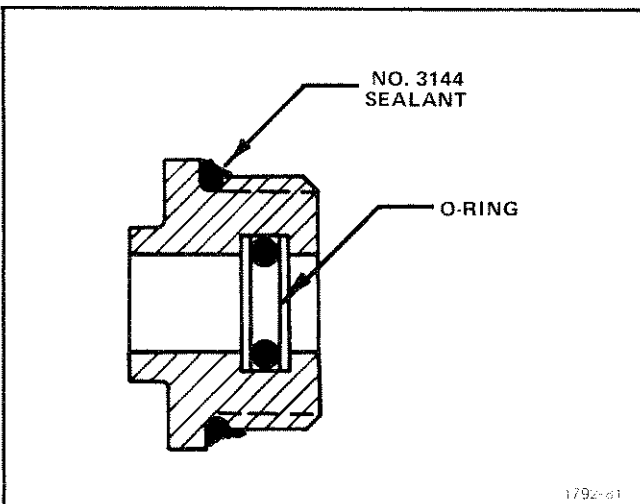

Fig. 5-28. Lubrication of the O-rings and sealing for the cam-switches.
**24. Install cam switch inserts (see Fig. 5-28)**
1. Apply G-661 lubricant to O-ring and install as shown in Fig. 5-28.